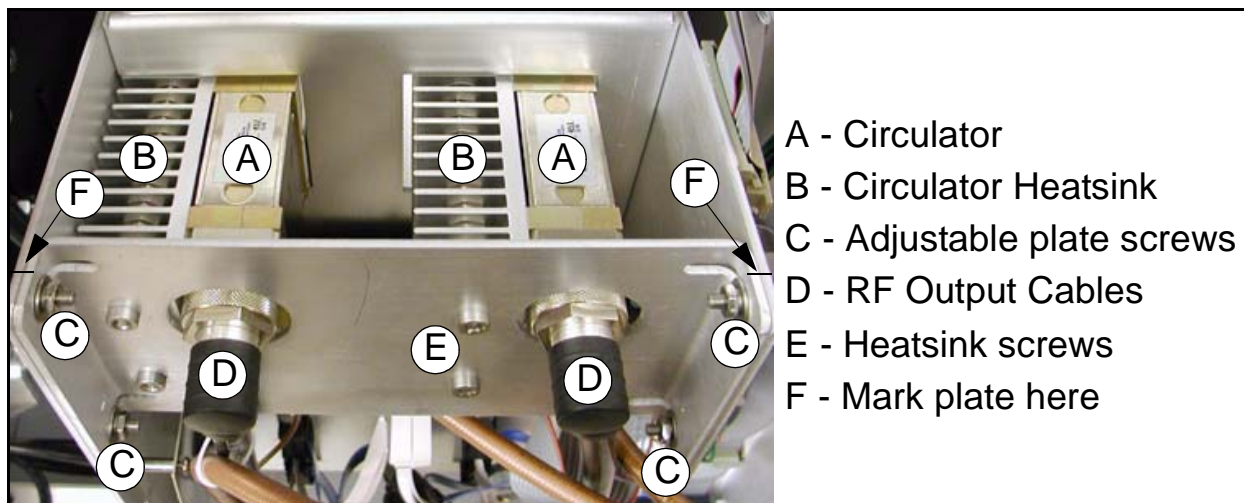

Figure 5-5 Circulator Assembly
- STEP 3** Mark the adjustable plate shown in Figure 5-5 for front to back position (F) on the top as shown and on the bottom. This will make re-assembly much easier and increase confidence that it is back in the correct position.
- STEP 4** Remove the RF output cables (D) and the reject cables from the circulators. If necessary, mark them for proper installation later.
- STEP 5** Remove the adjustable plate screws (C) and pull circulator assembly straight back. This should provide access to the screws on the side of either circulator. The heatsink screws pass all the way through the heatsink and should only be removed if better access to the circulator screws is required.